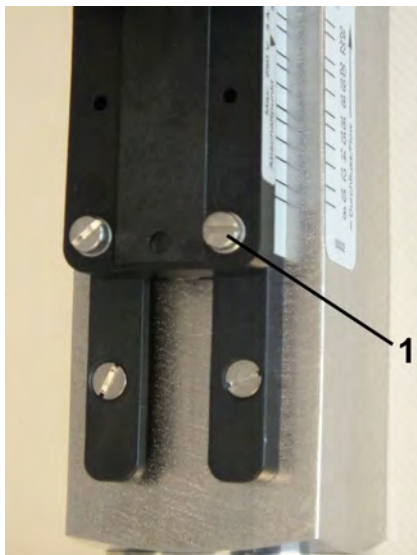

Fig. 33: Loosen set screws
1. Loosen the set screws of the switch contact (Fig. 33/1) using a flat-bladed screwdriver.